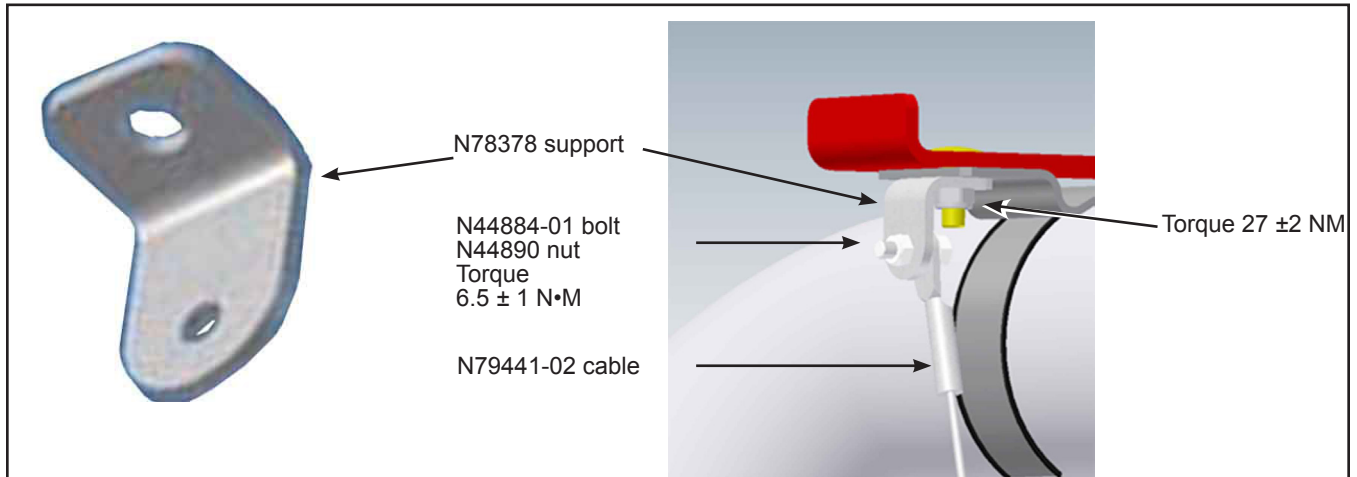

Figure 2 - Upper Support Installation
- 1.4. Install the N78378 support on the cooler air intake hose's front bolt support. See Figures 2 and 4.